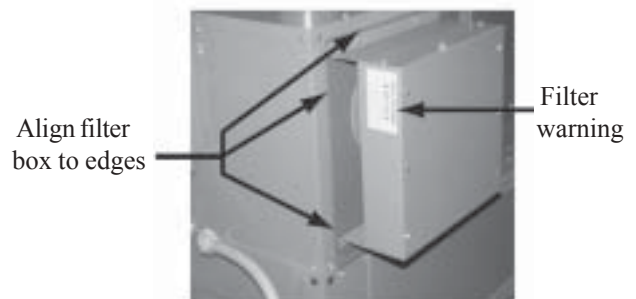

Fig. 2 Back of heater
10. Hold the box over the air intake filter warning decal facing outward and align the top and side edges as shown in **Fig. 2**.